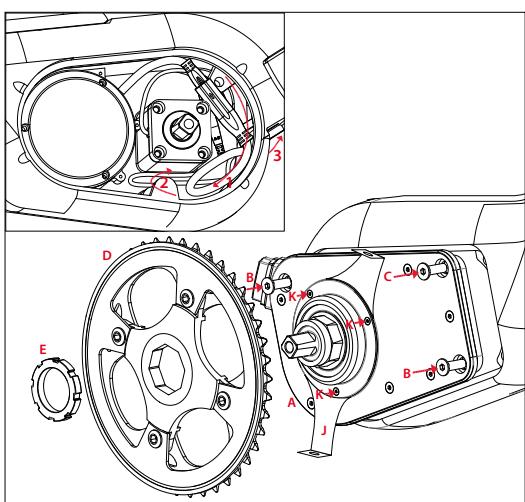
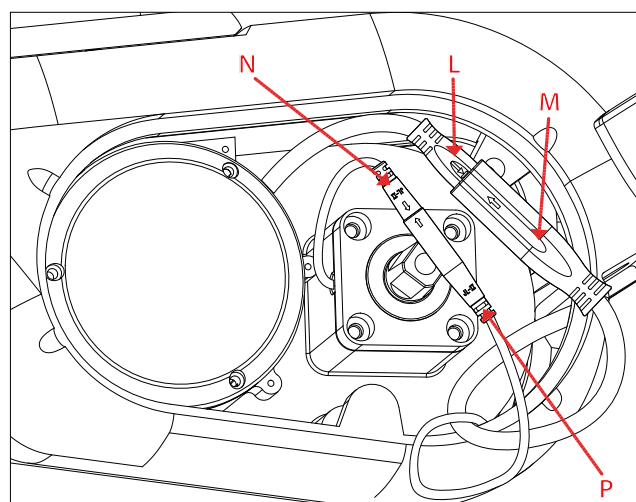

Figure 4.11 Mid motor assembly 6
Figure 4.12 Mid motor assembly 7
- c. Check for proper sensor connections to the sensor extension cable in the hanger (motor bracket) and check for any damage - only applies to bikes with mid motor and carrier docking station (Fig. 4.12)
- b. Check for proper sensor connections to the sensor extension cable in the hanger - only applies to bikes with mid motor and carrier docking station (Fig. 4.12)
- c. Check for proper sensor connections in the hanger – only applies to bikes with mid motor and carrier docking station (Fig. 4.12)
4. Use three M4 x 8 fasteners [K] to mount the chain guard bracket [J] to the motor (Fig. 4.11). Skip this step if the bike does not have a chain guard.
2. Route the cables to the hanger and insert the motor [A] into the hanger (Fig. 4.11)
3. Mount the motor using three M8 x 25 fasteners [B] and one M8 x 18 fastener [C] (Fig. 4.11 and 4.8). Tighten the fasteners to 18 - 20 Nm
4. Connect the bottom bracket set sensor [N] to the sensor extension cable [P] (Fig. 4.12).
5. Connect the motor cable [L] to the motor extension cable [M] (Fig. 4.12) and position the cables as shown in Figure 4.11